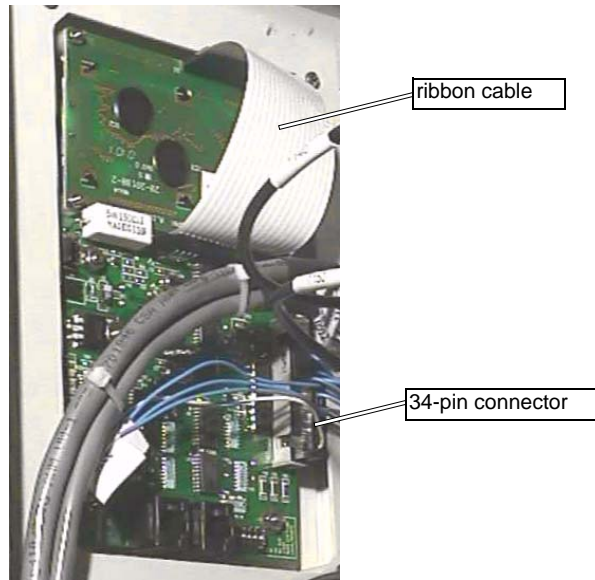

Figure 8-2: Keypad Ribbon Cable and 34-Pin Connector Location
3. Check that the ribbon cable between the display and keypad is not loose and/or defective. Ensure that the connector is fitted tightly onto the keypad and display. If red LEDs are lit on the keypad, and the connector is tightly fitted against the keypad and display, the ribbon cable may be bad. Before replacing the ribbon cable, first inspect the 34-pin cable on the keypad. See Figure 8-2, Keypad Ribbon Cable and 34-Pin Connector Location on page 8-3.
4. Check that the 34-pin connector cable is not loose and/or defective. Ensure that the connector is fitted tightly onto the keypad by disengaging and then re-engaging the connector; it should feel snug. If that does not correct the problem, detach the 34-pin cable from the keypad and visually inspect the female connector, ensuring all pins are fully locked into the housing. See Figure 8-2, Keypad Ribbon Cable and 34-Pin Connector Location on page 8-3.
9. Check that the 34-pin connector cable is not loose and/or defective. Ensure that the connector is fitted tightly onto the keypad by disengaging and then re-engaging the connector, it should feel snug. If that does not solve the problem detach the 34-pin cable from the keypad and visually inspect the female connector to make sure all of the female pins are fully locked into the housing. See Figure 8-2, Keypad Ribbon Cable and 34-Pin Connector Location on page 8-3.
10. Verify that the ribbon cable between the display and keypad is not loose. Ensure that the connector is fitted tightly onto the keypad and display. Ensure that the connector is properly fitted onto the correct pins. If red LEDs are lit on the keypad, and the connector is tightly fitted against the keypad and display, the ribbon cable may be bad. Before replacing the ribbon cable, also check the 34-pin connector on the keypad. See Figure 8-2, Keypad Ribbon Cable and 34-Pin Connector Location on page 8-3.